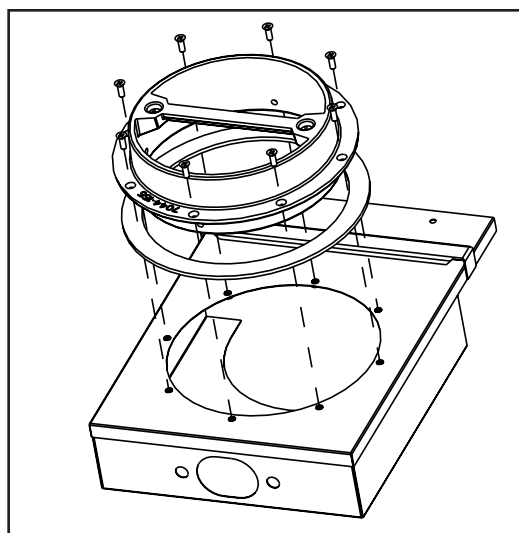

Figure 39.3
2. Slide the gasket over the the flue collar and attach it to the offset adapter using the 8-32 flathead screws provided. **Figure 39.3**.